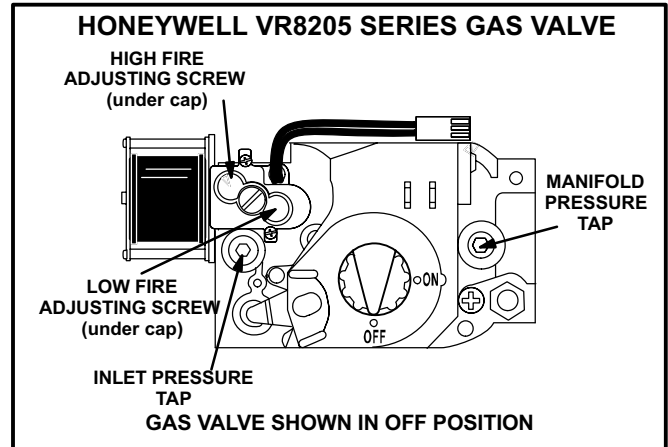

FIGURE 30
- 6 - Turn gas valve knob to **OFF** position. See figure 30.
- 7 - Wait five (5) minutes to clear out any gas. If you then smell gas, **STOP!** Immediately call your gas supplier from a neighbor's phone. Follow the gas supplier's instructions. If you do not smell gas go to next step.
- 2 - After line pressure has been checked and adjusted, check high heat regulator pressure. See figure 30 for gas pressure adjustment screw location. High heat manifold pressure for natural and LP/propane gas is given in table 17.